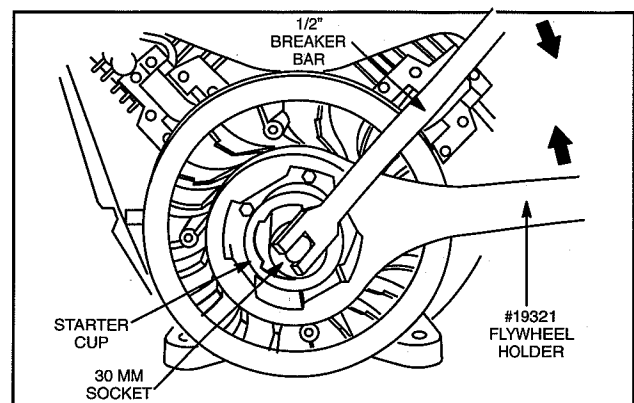

Fig. 11 – Torque Flywheel Nut
3. Torque flywheel nut to 175.0 Nm (125 ft. lbs.), Fig. 11.